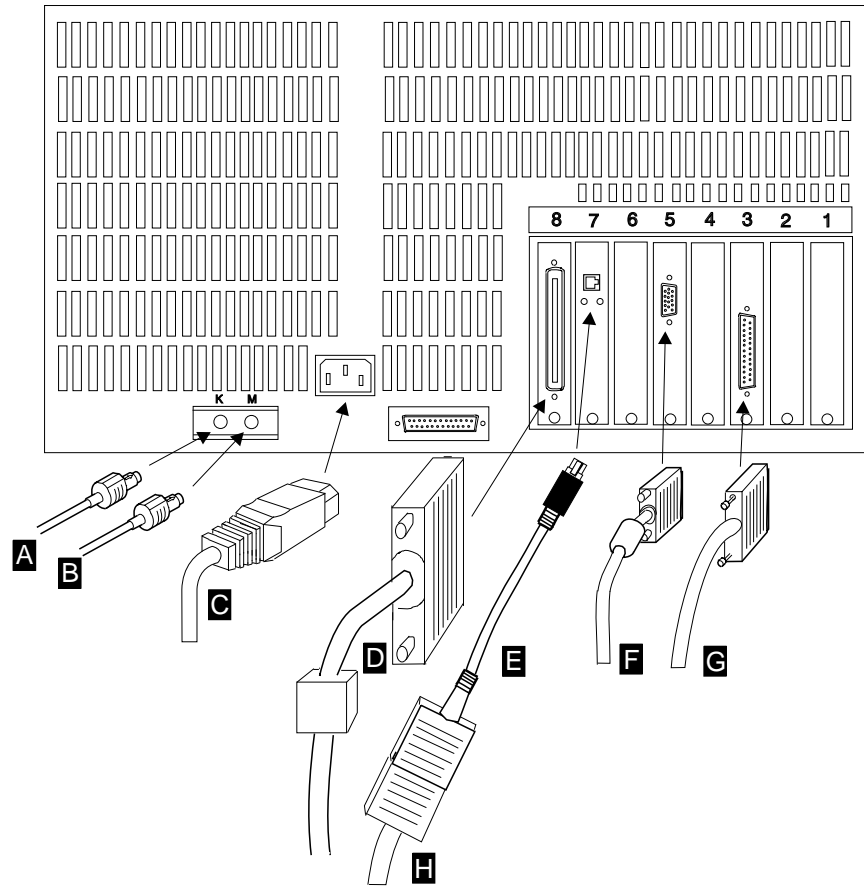

Figure 6-3. Service Processor Cables
- c** At the rear of the processor re-connect all the cable previously removed (see Figure 6-3 on page 6-43).